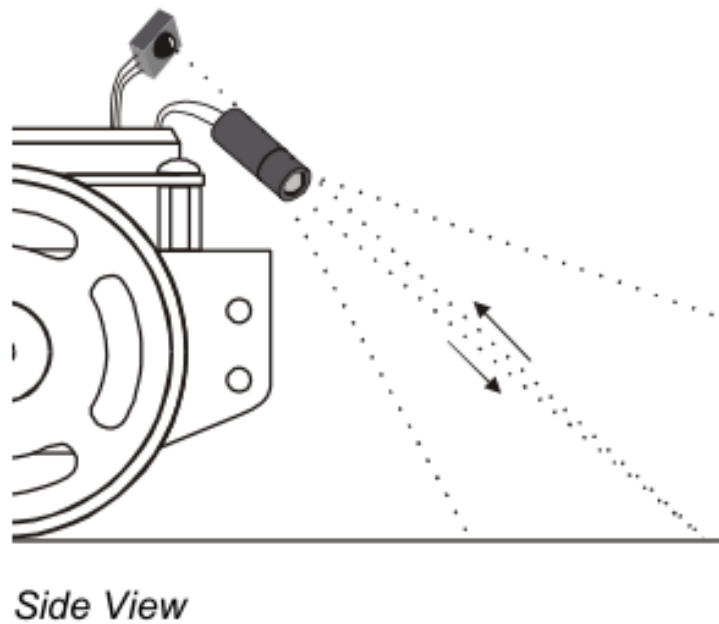

Figure 30: Orientation of Headlights for Stripe Following
3. Angle the IR LED/detector pairs toward the ground as shown in Figure 30.